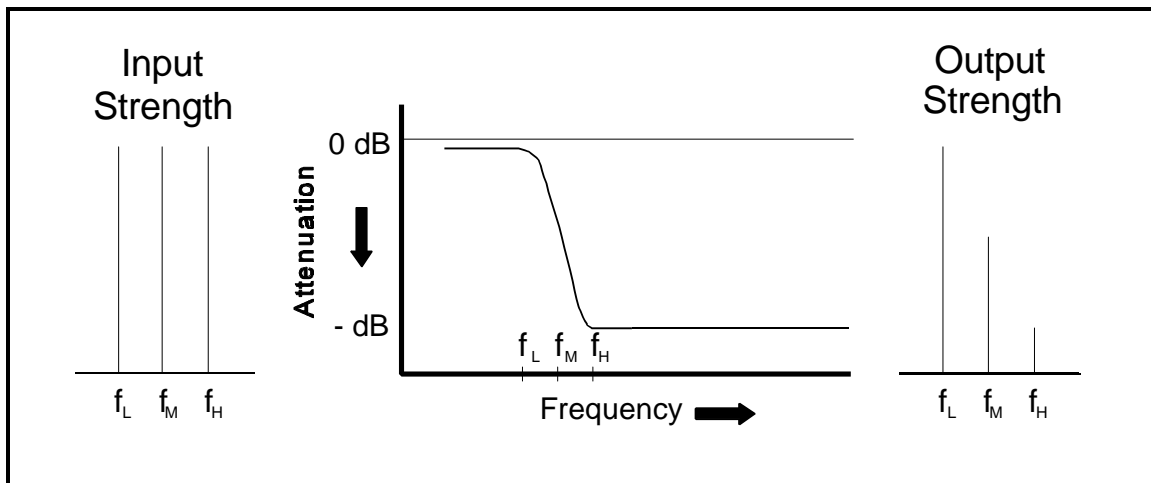

Figure 1. Low-Pass Filter
1. A low-pass filter which passes the low frequency signals below a predetermined value as shown in Figure 1.